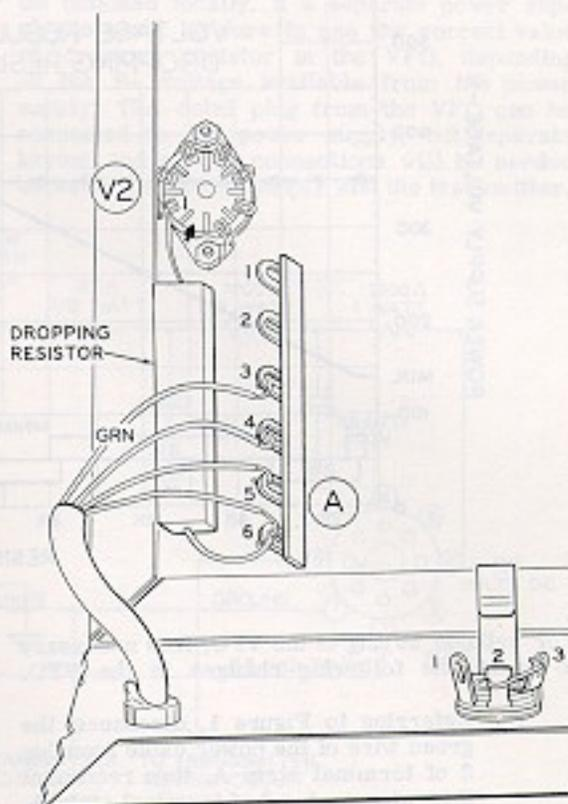
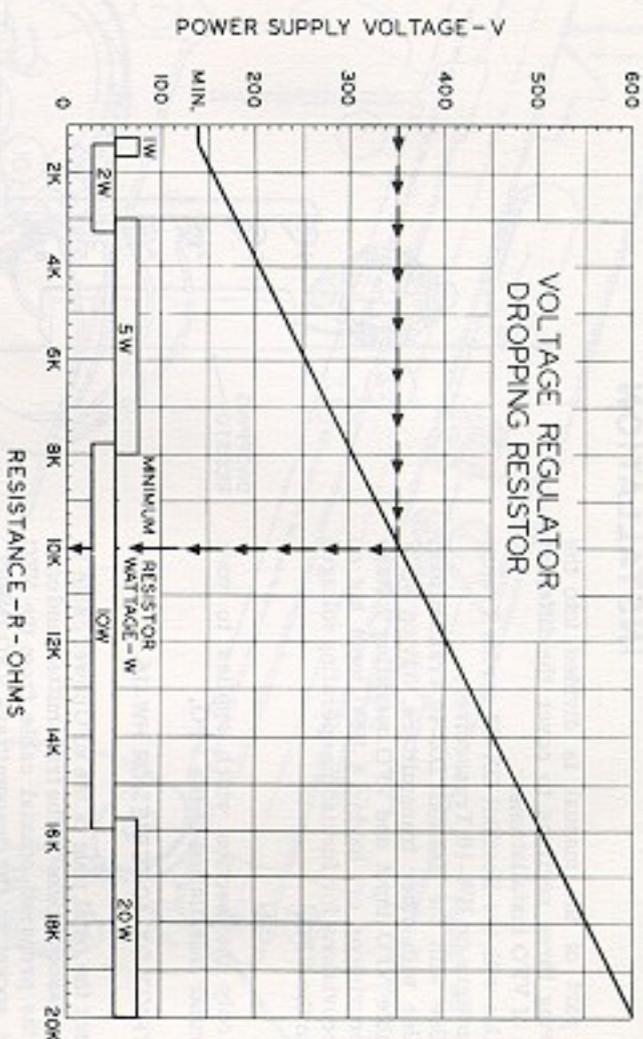
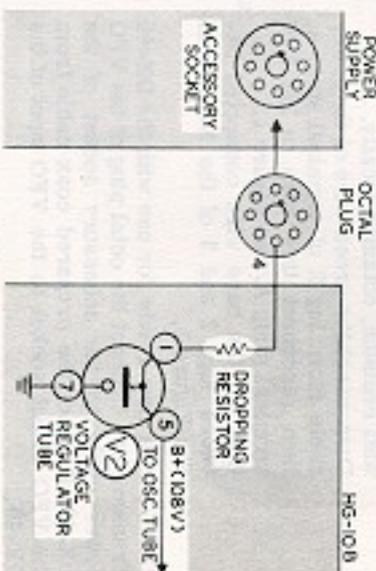

Figure 1
Figure 2
Figure 3
- () Disconnect the green wire of the power cable from lug 2 of terminal strip A, then reconnect this wire to lug 3 of terminal strip A. See Figure 1.
- () Clip out the bare wire connected between lugs 2 and 3 of the KEY jack. See Figure 1.
- () Referring to Figure 1, disconnect the green wire of the power cable from lug 2 of terminal strip A, then reconnect this wire to lug 3 of terminal strip A.
The value of the B+ voltage applied to the voltage regulator tube in the VFO is critical. For this reason, the value of the Dropping Resistor in series with the VR tube must be chosen to provide the correct voltage. The chart in Figure 2 should be used to determine the correct resistance and wattage of the Dropping Resistor. For example: If the B+ available from the transmitter is 350 volts, draw a line from the
350 volt point on the vertical scale across to the diagonal line of the graph. Then draw a line down from the point of intersection, to the horizontal scale. The point at which this line crosses the horizontal scale indicates the resistance value and wattage for the Dropping Resistor. This example is shown by the line of arrows on Figure 2. Do not use smaller resistance or wattage values. The correct Dropping Resistor should be installed in the VFO as shown in Figure 1. The 10 KΩ, 10 watt resistor, already in the VFO, should be removed. Figure 3 shows the VR tube and Dropping Resistor circuit schematically.